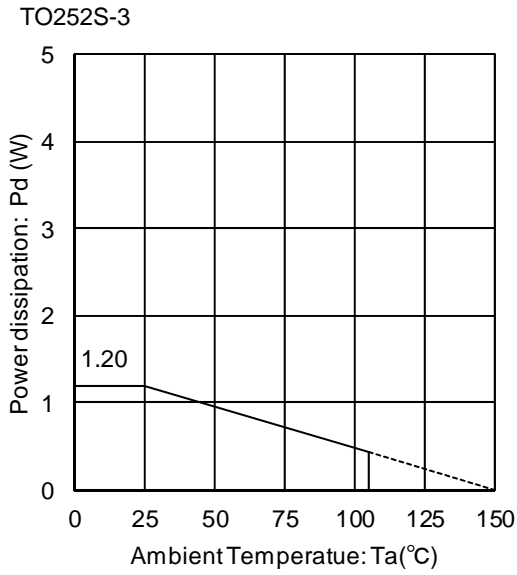
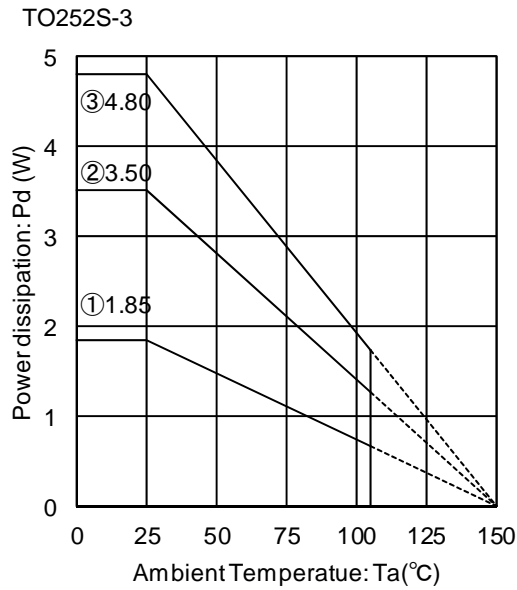

Figure 25.
Figure 26.
When used at temperatures over $T_a=25^{\circ}\text{C}$, please refer to the power dissipation curve shown in Figure 25 and Figure 26. The IC characteristics are closely related to the temperature at which the IC is used, so it is necessary to operate the IC at temperatures less than the maximum junction temperature $T_{j\text{max}}$.
Figure 25 and Figure 26 show the acceptable power dissipation curve of the TO252S-3 package. Even when the ambient temperature T_a is at normal temperature (25°C), the chip (junction) temperature T_j may be quite high, so please operate the IC at temperature less than the acceptable power dissipation P_d .
The calculation method for power consumption $P_c(\text{W})$ is as follows : (Figure 26③)
(Figure 26③ : $\theta_{ja}=26.0^{\circ}\text{C/W} \rightarrow -38.4\text{mW}/^{\circ}\text{C}$